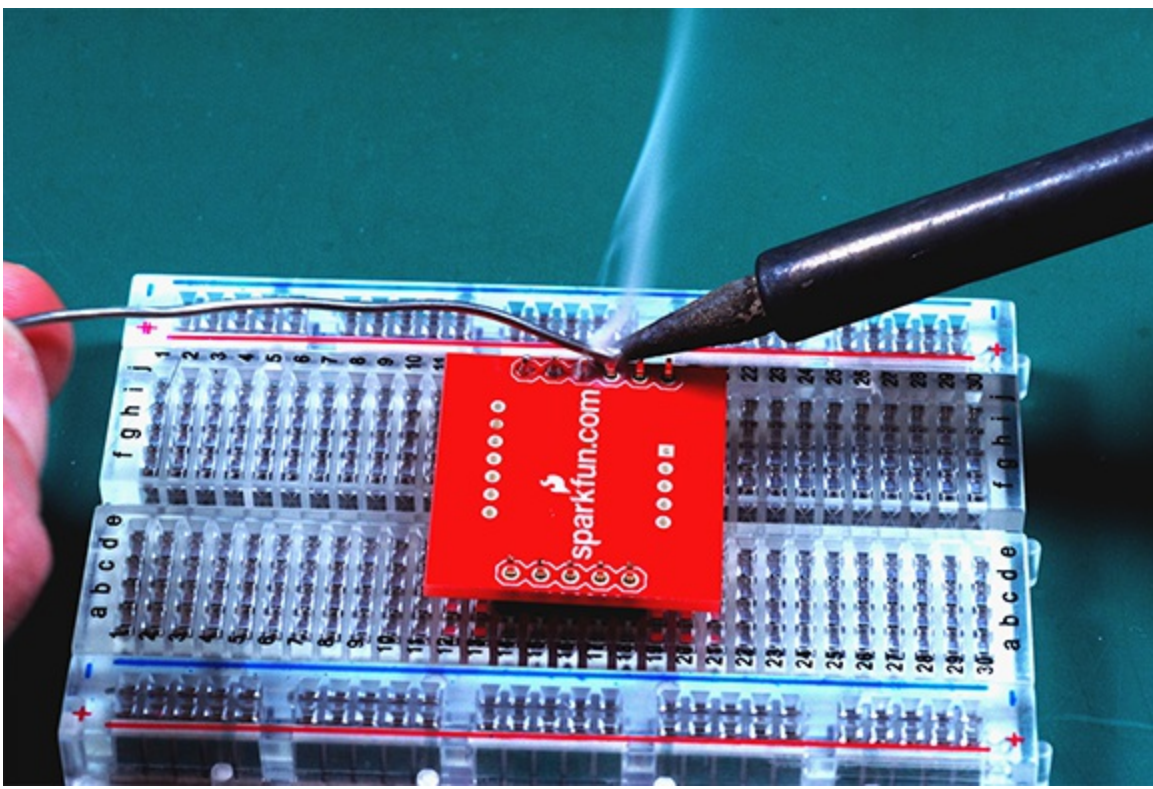

Figure 9-5: Soldering your pins on the breakout board with the SparkFun logo facing up!
4. Carefully solder the two rows of pins in place, as shown in Figure 9-5.